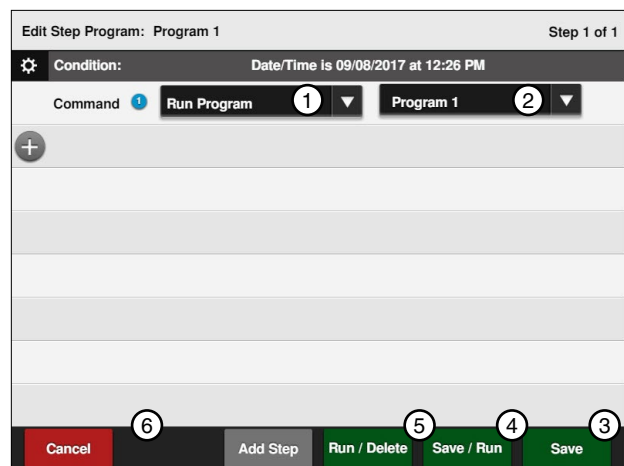

Figure 98-2 1. Choose Command 4. Save / Run
5. Select the **Choose Program** drop-down menu and choose the program that you want to run. Refer to Figure 98-2.